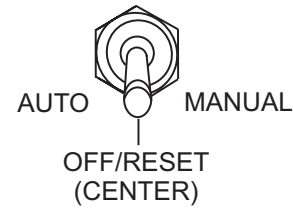

Figure 95. Auto Start/Stop Switch (Off/Reset Position)
- Place the Auto Start/Stop switch (Figure 95) in the “Off/Reset” position.